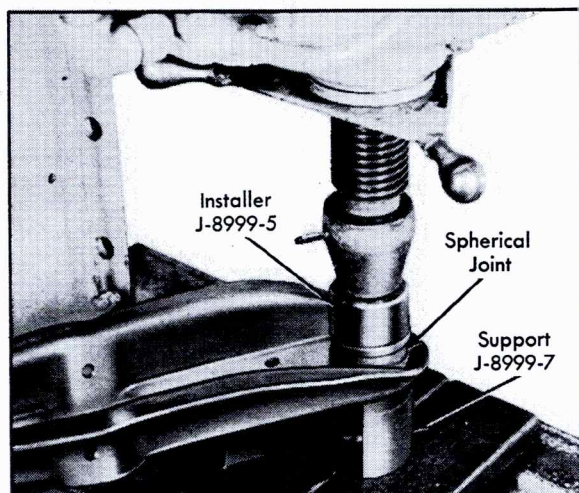

Fig. 3-16 Installing Spherical Joint in Lower Arm
3. Position Spherical Joint Installer, J-8999-5, on flanged portion of joint housing, Fig. 3-16, and press spherical joint into arm until joint flange bottoms on mounting hole flange.